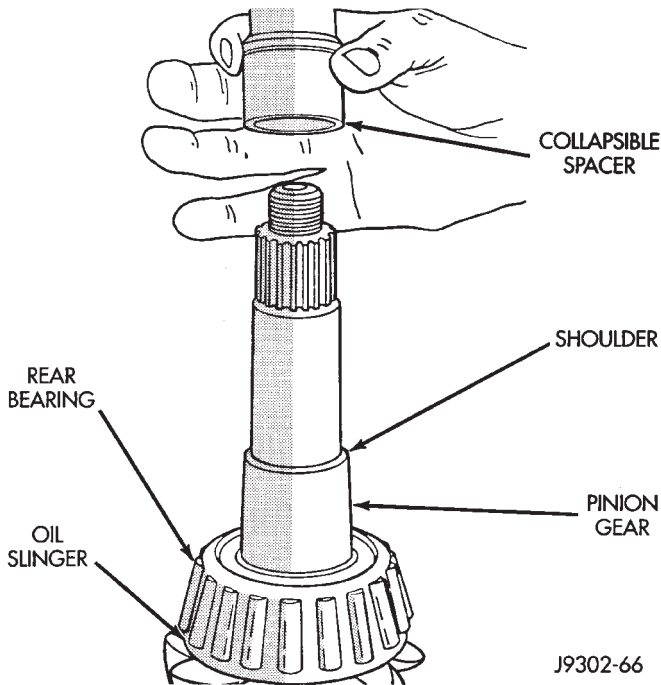
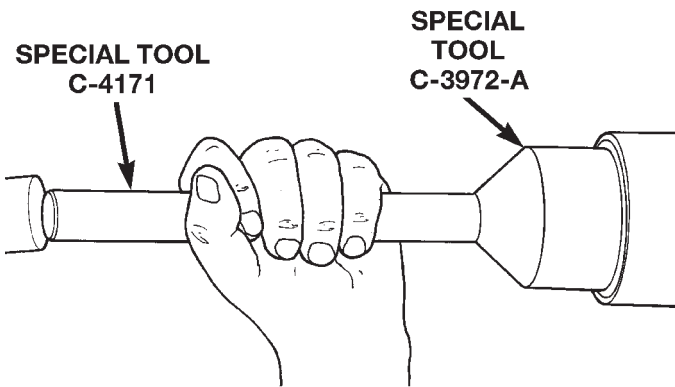

Fig. 14 Collapsible Preload Spacer
Fig. 15 Pinion Seal Installation
(1) Install a new collapsible preload spacer on pinion shaft (Fig. 14).
(2) If pinion gear was removed, install pinion gear in housing.
(3) Install pinion front bearing, if necessary.
(4) Apply a light coating of gear lubricant on the lip of pinion seal. Install seal with Installer C-3972-A and Handle C-4171 (Fig. 15).